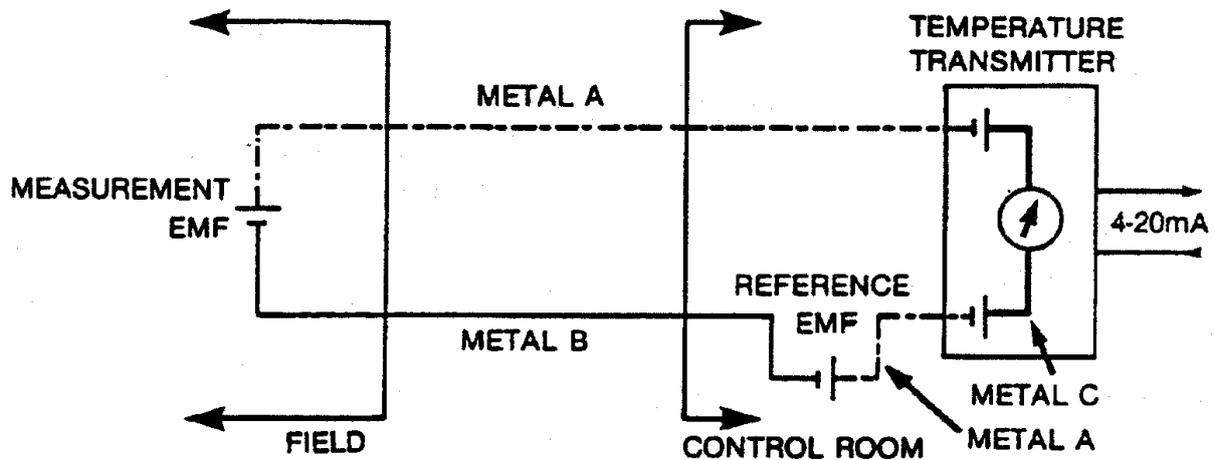

Figure 5: Equivalent Thermocouple Temperature Transmitter Circuit Diagram.
- An equivalent circuit diagram of for the transmitter circuit is shown in Figure 5.
- From Figure 5 it can be seen that the emf generated by the metal A and C junctions are **equal and opposite** to each other in polarity.